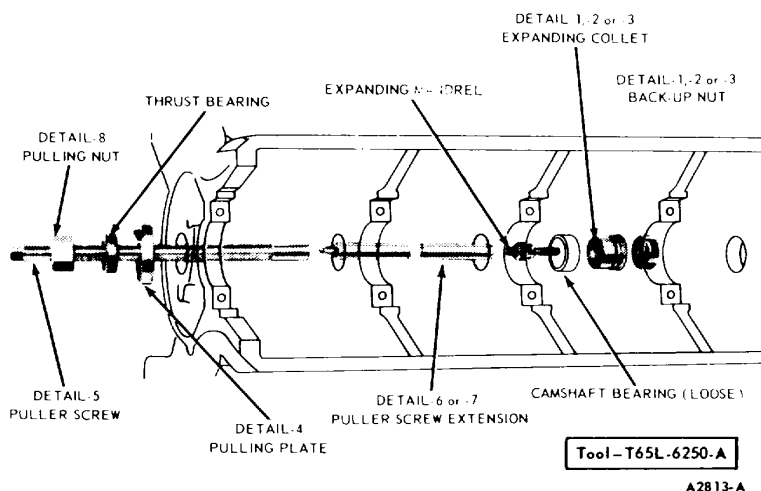

FIG. 57 Typical Camshaft Bearing Replacement
2. Remove the camshaft bearings with the tool shown in Figure 57.
1. Position the new bearings at the bearing bores, and press them in place with the tool shown in Figure 57. Be sure to center the pulling plate and puller screw to avoid damage to the bearing. **Failure to use the correct expanding collet can cause severe bearing damage.** Align the oil holes in the bearings with the oil holes in the cylinder block when the
- 3 Check the end gap and spacing (Figure 57) of all piston rings. They must be within specifications.